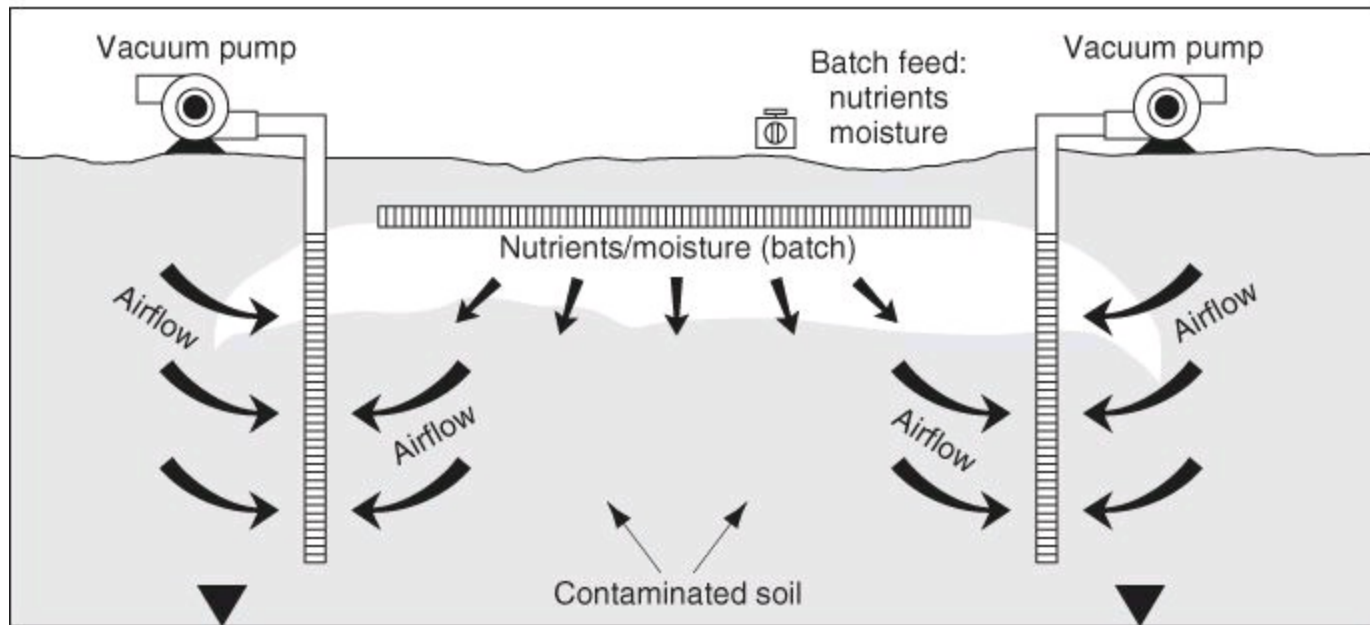

Figure P3.1.1
****3.1.1.** Examine Figure P3.1.1 [adapted from *Environ. Sci. Technol.*, **27**, 1975 (1993)]. What would be a good system to designate for this bioremediation process? Is your system open or closed? Is it steady-state or unsteady-state?